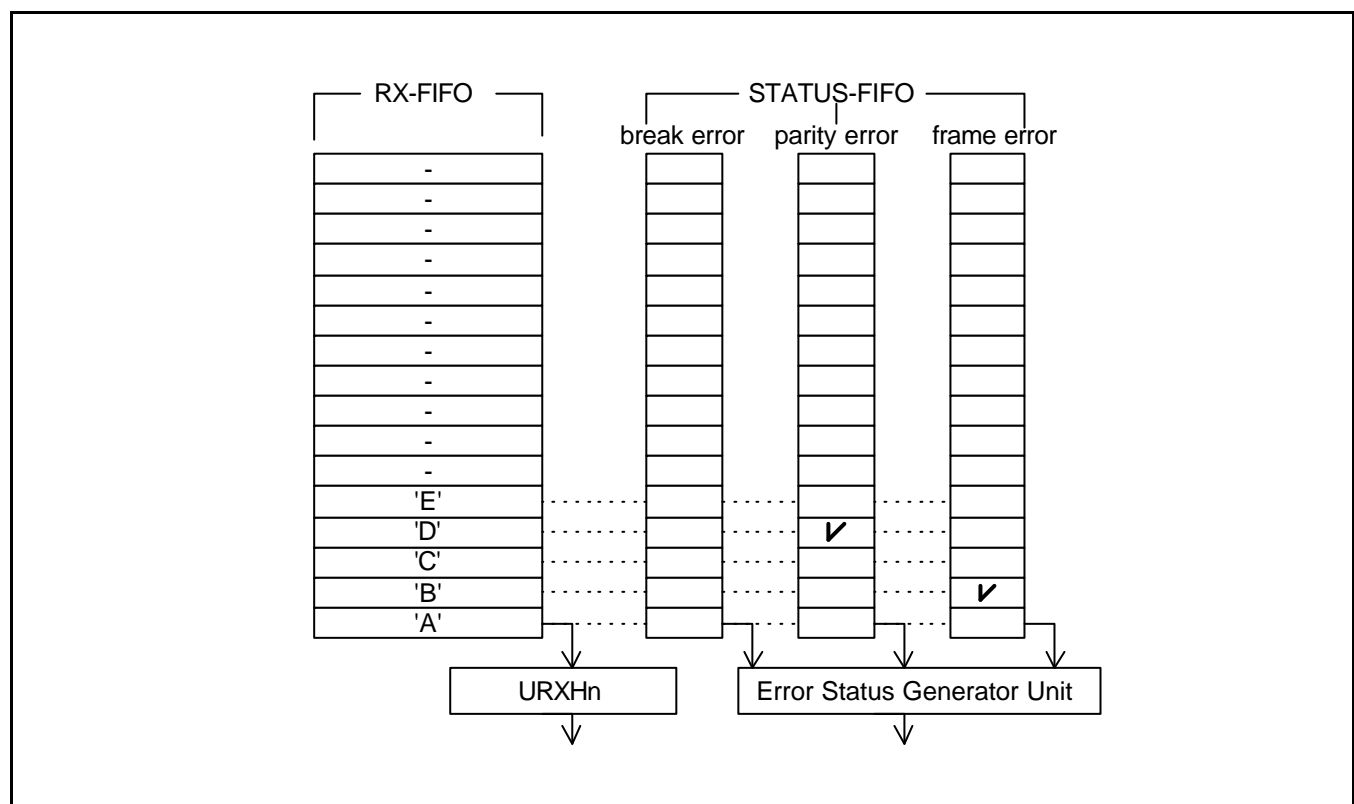

Figure 10-3. A Case showing UART Receiving 5 Characters with 2 Errors
The S3C44B0X UART block supports Infrared (IR) transmission and reception, which can be selected by setting the Infrared-mode bit in the UART control register (ULCONn). The implementation of the mode is shown in Figure 10-3.